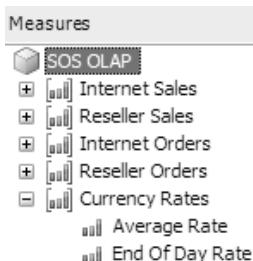

Figure 4.46 The Currency Rates measure group will be used to convert the localized sales facts.
- Delete the Fact Currency Rate Count measure since it's not that useful for data analytics. At this point, the Measures pane should look like the one shown in Figure 4.46.